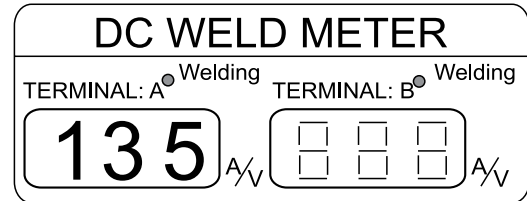

Figure 38. DC Weld Meter (135 Amps)
5. The selected current (amps) will be displayed on the DC weld meter. The example shown in Figure 38 is for a constant current value of 135 amps.